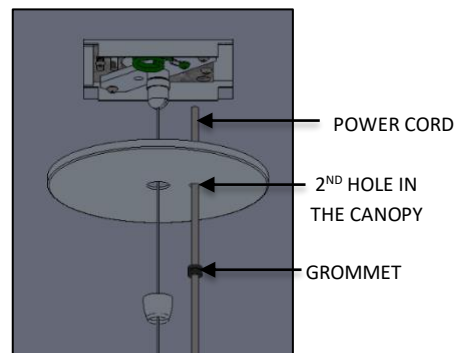

FIG. 38 – CORD INSTALLATION
29. Feed POWER CORD through GROMMET and then pass it through the 2ND hole provided in the CANOPY as shown below in FIG. 38.